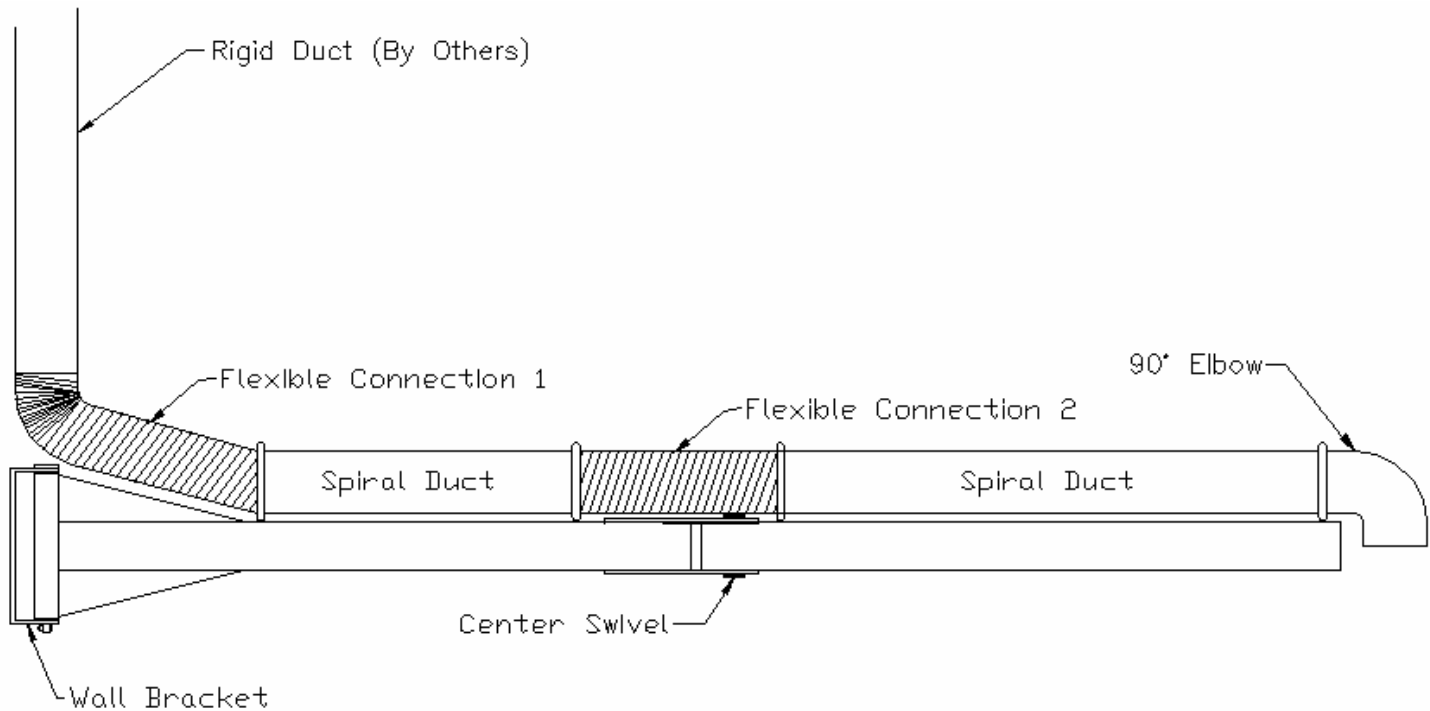

FIG 1
1. The extension boom should be mounted in a location so that the rigid duct can be installed as shown in FIG 1. Determine the height of the wall bracket so that the boom will not interfere with any other systems or come in contact with any equipment that can damage the system or effect performance. Rigid pipe should be at least a foot from the top of the wall bracket.
3. Lift and position beam 1 so that the longer pivot bolt (threaded on both ends) can slide through the wall bracket holes and the sleeve on beam 1. NOTE: Make sure the predrilled holes for the duct clamps are pointed up. Fasten using the washers and nuts provided (See FIG 1). Test movement of the beam to make sure torque is correct. The boom should not be able to move up or down when pressure is applied vertically and should also pivot freely horizontally.
5. Attach spiral ductwork to the steel boom (as shown in FIG 1) using the provided duct clamps and bolts. It is recommended to first bolt the duct to the beams using the duct clamps, then to rivet the ductwork to the clamps through the predrilled holes located on the top of the duct clamps to insure a rigid connection.
6. Attach flexible tubing to the rigid duct and spiral duct using the provided hose clamps. For additional security, drill through the center of the base clamp and the spiral duct. Rivet the flexible tubing to the rigid duct and spiral duct through the hose clamps. NOTE: Use the larger section of the flexible tubing to connect the vertical rigid ductwork to the boom (trimming may be necessary) and the shorter length at the center swivel of the boom. (As pictured in FIG 1) Test for free movement.